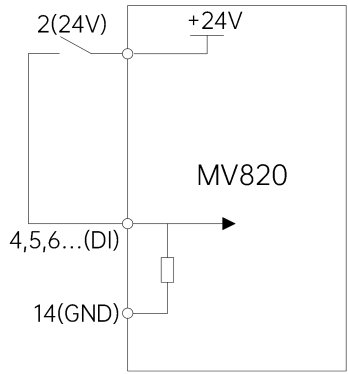

Fig. 4-13 Wiring diagram when the internal +24 V power supply of the drive is used
- (1) P09.11=0 (set digital terminal open circuit voltage to 0 V)
① Dry contact mode, shown in Fig. 4-13.